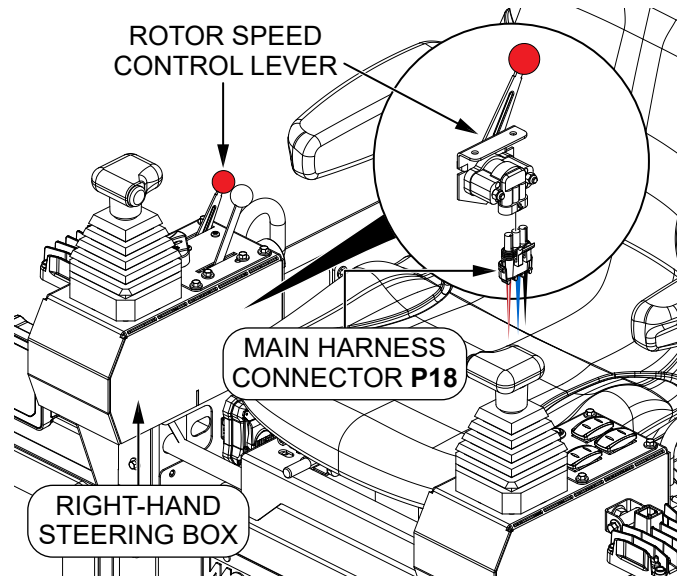

Figure 7. Disconnect Speed Lever
1. Reach underneath the **right-hand steering box** (Figure 7) and disconnect **main harness connector P18** from the **rotor speed control lever**.